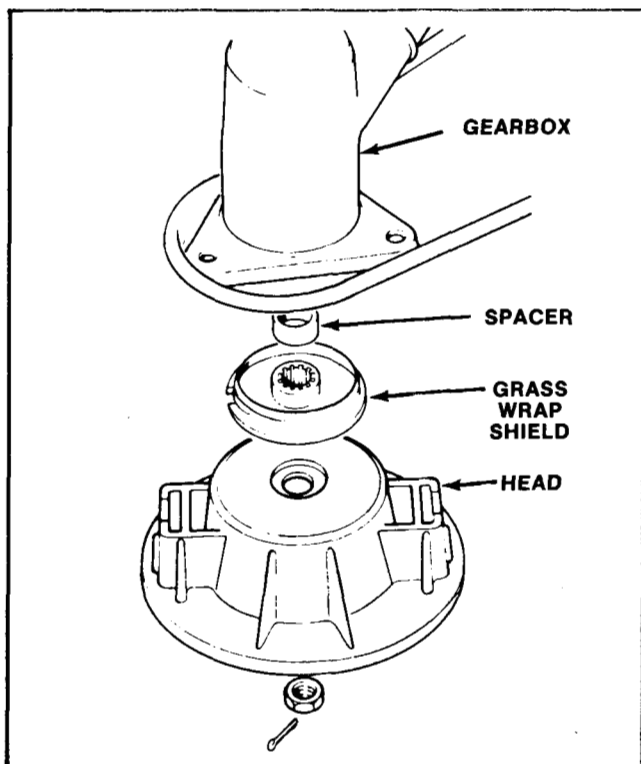

Figure 149
1. Mount the cutter head on the shaft. See Figure 149.